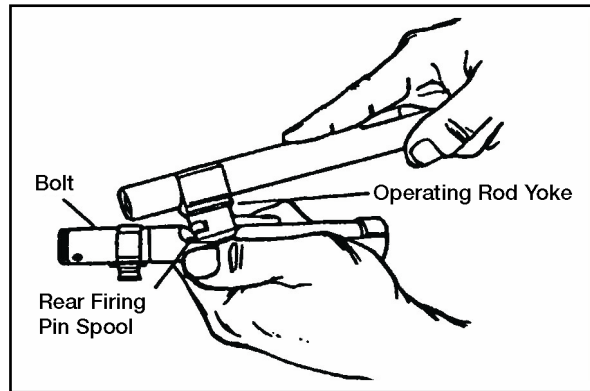

Figure 071-312-3025-13. Rear of operating rod yoke positioned against rear firing pin spool
- (1) Hold the bolt securely in one hand with the camming slot up. The face of the bolt should be toward the body.
- (2) Position the rear of the operating rod yoke against the rear firing pin spool with the other hand (figure 071-312-3025-13).